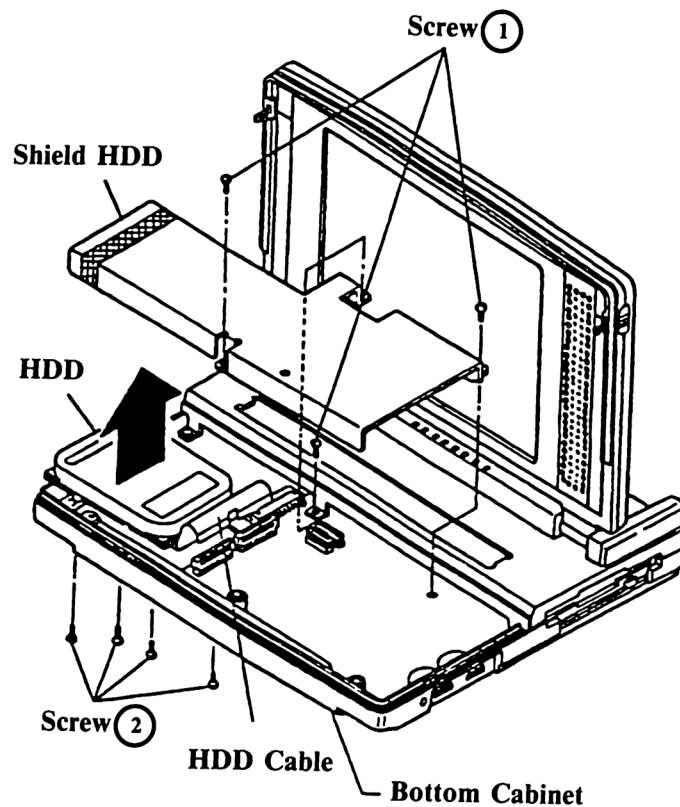

Figure 3.3
Remove the three screws (1) which hold Shield HDD in place. (Figure 3.3)